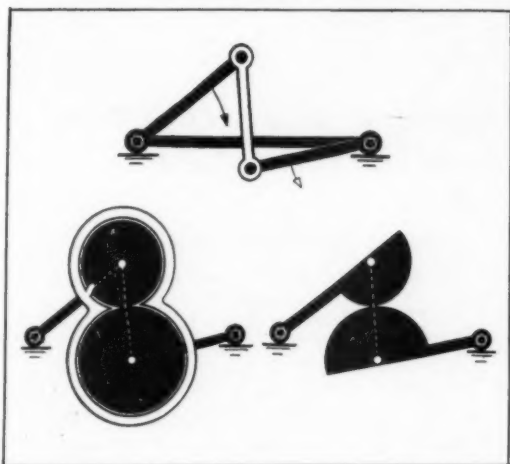

Fig. 15—Roller guide and corresponding chain form in accordance with Franke's point of view
2. This concept of the pin-jointed arrangement as the general form leads to some unnecessary complications. For example, according to Franke's concepts, the generalized form for the roller guide (a 4-link mechanism), would be a 12-link pin-jointed combination, *Fig. 15*.